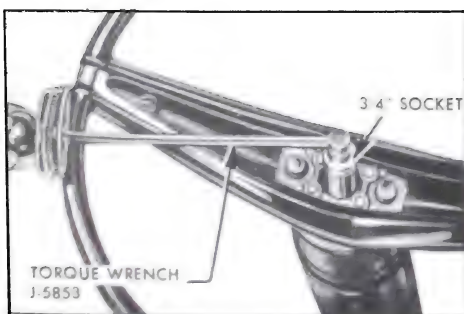

Figure 8-31—Checking Adjustments in Car
4. Turn steering wheel to extreme right or left position. Attach Torque Wrench J-5853 to steering wheel retaining nut and check the torque required to turn the wheel steadily in the range where lash normally exists between rack-piston nut and pitman shaft sector. See Figure 8-31. The lash range exists for one-eighth turn of steering wheel from either extreme position.